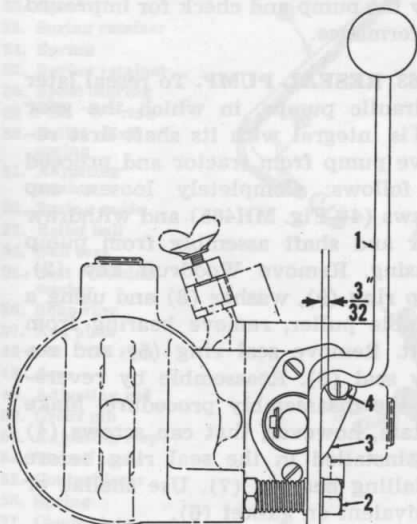

Fig. MH460—"Depth-O-Matic" control handle adjustments.
353. **CONTROL HANDLE.** (See Fig. MH460). Adjust pivot bolt (2) so that control handle is in a vertical position.